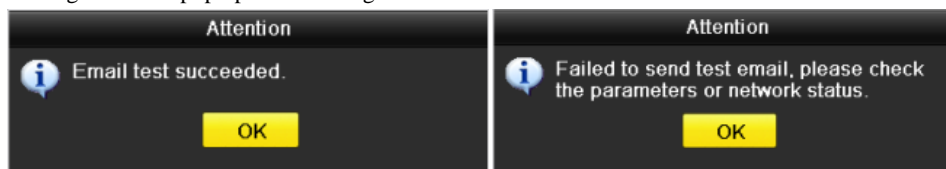

Figure 9. 22 Email Testing Attention
7. You can click  to test whether your Email settings work. The corresponding Attention message box will pop up. Refer to Figure 9. 22.